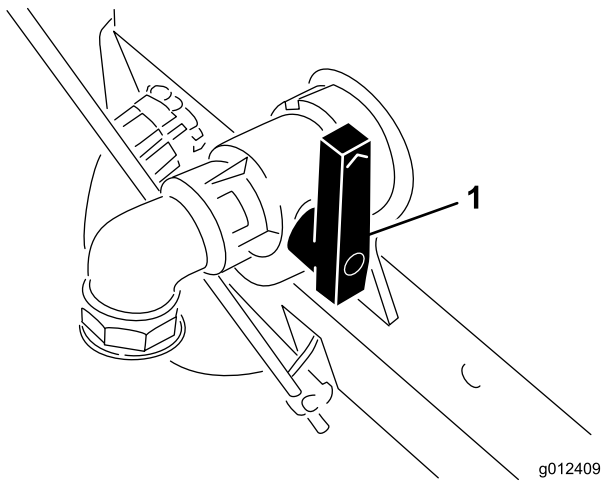

Figure 21
3. Make sure the paint control lever is in the released position and the tank drain valve (Figure 21) is closed.